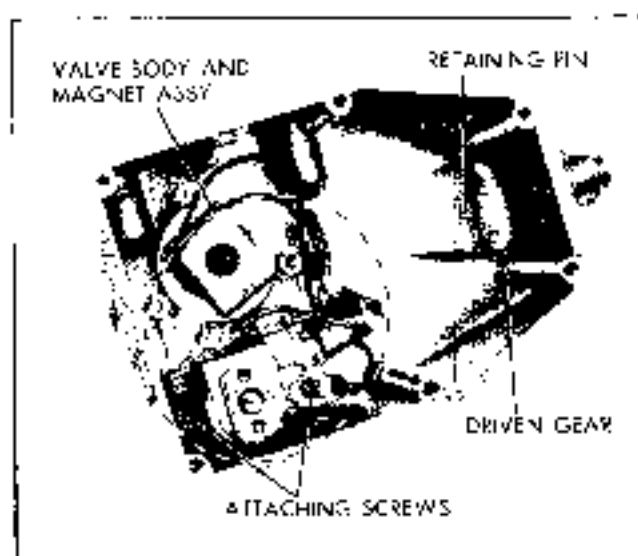

Fig. 15-9 Valve Body and Magnet Assy—Removal
6. Remove four screws (2 internal, 2 external) holding the valve body and magnet assembly. Remove valve body and magnet assembly from the regulator housing. (Fig. 15-9).